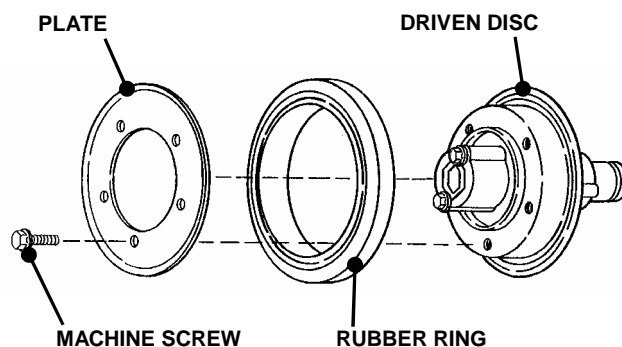

FIGURE 4.8
4. Remove the five machine screws and plate that secures the rubber ring to the driven disc hub. See Figure 4.8.